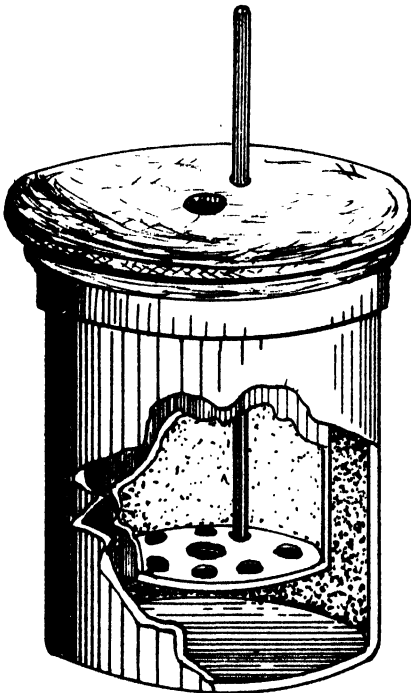

FIG. 250. CALORIMETER.
Heat is measured by means of a calorimeter, Fig. 250. The metric unit of heat is the calorie. A small calorie (c) is the amount of heat needed to raise the temperature of 1 g. of water  $1^{\circ}\text{C}$ . A large calorie (C) is 1000 small calories.